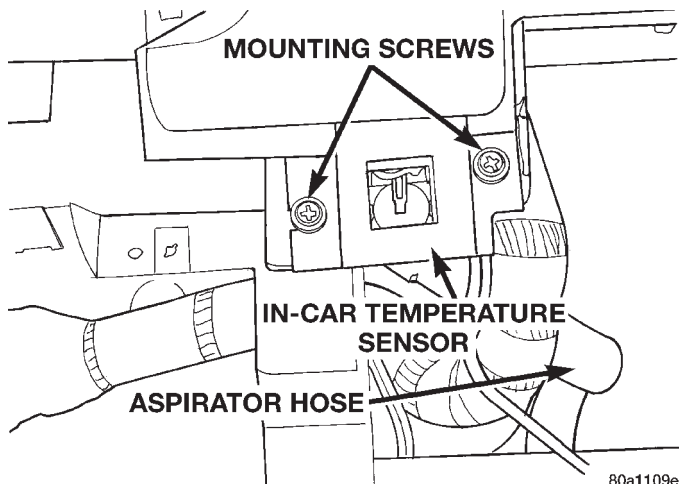

Fig. 44 In-Vehicle Temperature Sensor
- (1) Disconnect and isolate the battery negative cable.
- (2) Remove the glove box module. Refer to Group 8E - Instrument Panel Systems for the procedures.
- (3) Disconnect the aspirator hose at the in-line splice connector near the passenger side of the floor pan transmission tunnel and under the instrument panel (Fig. 44).